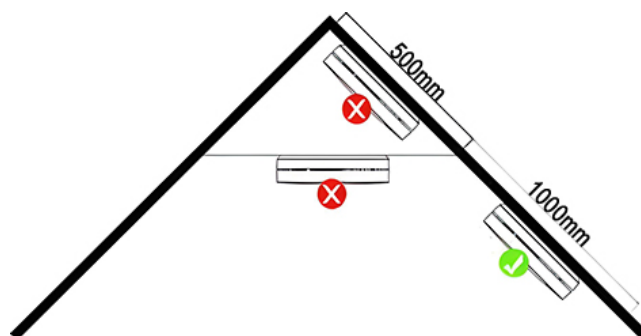

Figure 2
7. If the wall or ceiling is slanting, the alarm needs to be installed at least 500mm away from the highest wall or ceiling point in the room (see figure 2).